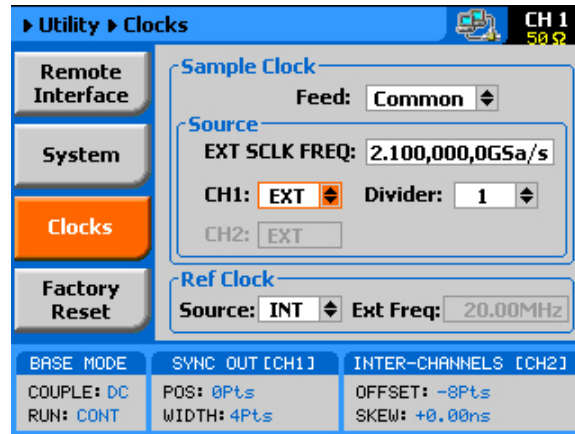

Figure 3-17, Using an External Sample Clock Example
**EXT SCLK FREQ** – this field becomes active only after you select an external source feed to one of the channels. This field is necessary for the instrument to establish a frequency range for the internal phase lock loops and therefore must be programmed near or exactly as the external source frequency. Figure 3-17 shows an example of a setup that provides external feed to channel 1 with an external frequency of 4.000,000 GHz.